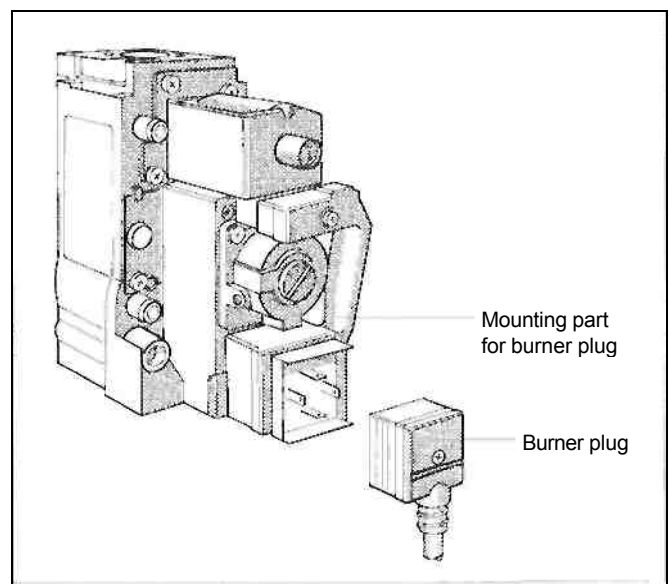

Fig. 11: Burner plug
- Attach mounting part for burner plug to Gas valve, plug in burner plug of the supplied power cable and secure with screw M3x60 (Fig. 11).